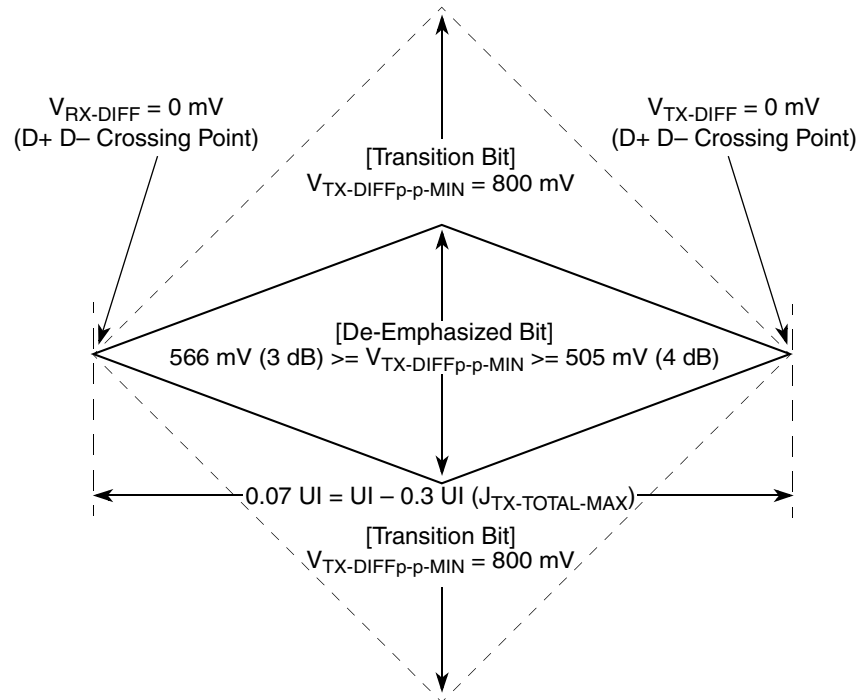
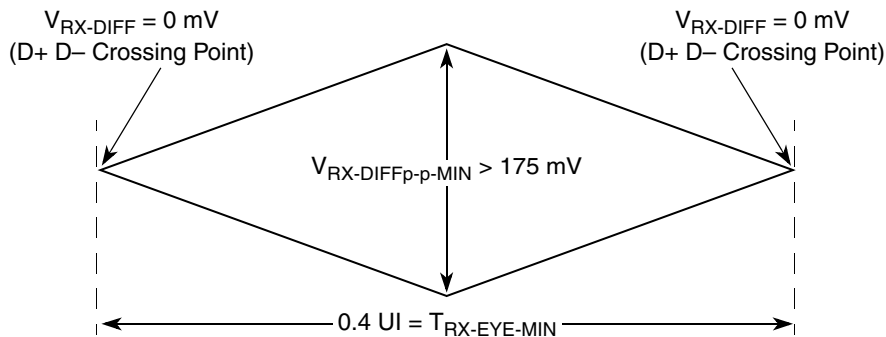
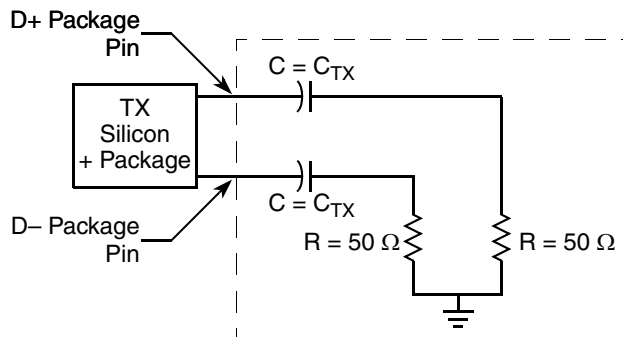

Figure 48. Minimum Transmitter Timing and Voltage Output Compliance Specifications
Figure 49. Minimum Receiver Eye Timing and Voltage Compliance Specification
Figure 50. Compliance Test/Measurement Load
2. Specified at the measurement point into a timing and voltage compliance test load as shown in Figure 50 and measured over any 250 consecutive TX UIs. (Also see the transmitter compliance eye diagram shown in Figure 48.)
4. The transmitter input impedance shall result in a differential return loss greater than or equal to 12 dB and a common mode return loss greater than or equal to 6 dB over a frequency range of 50 MHz to 1.25 GHz. This input impedance requirement applies to all valid input levels. The reference impedance for return loss measurements is 50 Ω to ground for both the D+ and D– line (that is, as measured by a vector network analyzer with 50- Ω probes—see Figure 50). Note that the series capacitors C_{TX} is optional for the return loss measurement.
5. Measured between 20%–80% at transmitter package pins into a test load as shown in Figure 50 for both $V_{\text{TX-D+}}$ and $V_{\text{TX-D-}}$.
The TX eye diagram in Figure 48 is specified using the passive compliance/test measurement load (see Figure 50) in place of any real PCI Express interconnect +RX component.
- Specified at the measurement point and measured over any 250 consecutive UIs. The test load in Figure 50 must be used as the RX device when taking measurements (also see the receiver compliance eye diagram shown in Figure 49). If the clocks to the RX and TX are not derived from the same reference clock, the TX UI recovered from 3500 consecutive UI must be used as a reference for the eye diagram.
- The receiver input impedance shall result in a differential return loss greater than or equal to 15 dB with the D+ line biased to 300 mV and the D– line biased to –300 mV and a common mode return loss greater than or equal to 6 dB (no bias required) over a frequency range of 50 MHz to 1.25 GHz. This input impedance requirement applies to all valid input levels. The reference impedance for return loss measurements for is 50 Ω to ground for both the D+ and D– line (that is, as measured by a vector network analyzer with 50- Ω probes—see Figure 50). Note: that the series capacitors CTX is optional for the return loss measurement.
The RX eye diagram in Figure 49 is specified using the passive compliance/test measurement load (see Figure 50) in place of any real PCI Express RX component.
Note: In general, the minimum receiver eye diagram measured with the compliance/test measurement load (see Figure 50) is larger than the minimum receiver eye diagram measured over a range of systems at the input receiver of any real PCI Express component. The degraded eye diagram at the input receiver is due to traces internal to the package as well as silicon parasitic characteristics which cause the real PCI Express component to vary in impedance from the compliance/test measurement load. The input receiver eye diagram is implementation specific and is not specified. RX component designer must provide additional margin to adequately compensate for the degraded minimum receiver eye diagram (shown in Figure 49) expected at the input receiver based on some adequate combination of system simulations and the return loss measured looking into the RX package and silicon. The RX eye diagram must be aligned in time using the jitter median to locate the center of the eye diagram.
The reference impedance for return loss measurements is 50. to ground for both the D+ and D- line (that is, as measured by a vector network analyzer with 50-Ω probes—see Figure 50). Note that the series capacitors, CTX, are optional for the return loss measurement.
The AC timing and voltage parameters must be verified at the measurement point, as specified within 0.2 inches of the package pins, into a test/measurement load shown in Figure 50.